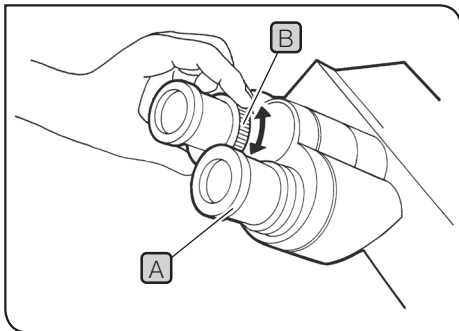

Fig.39
## 6 Using eyepieces incorporating a micrometer (Fig.39)
- 1** Looking into the right eyepiece with your right eye, turn the top of the eyepiece **A** so that the micrometer in the field of view looks sharpest. (Fig.39)